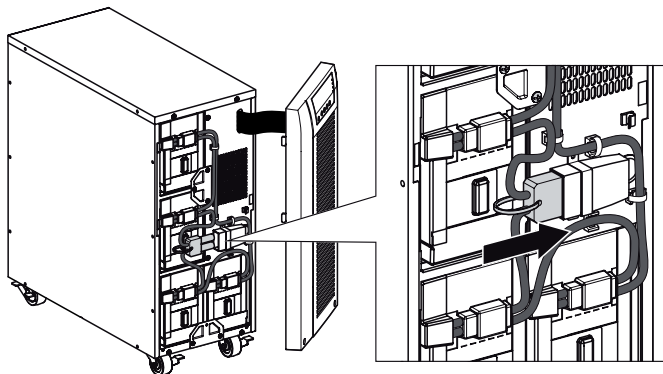

Figure 6. Connecting the UPS internal batteries.
2. Connect the internal battery connector (see figure 6).